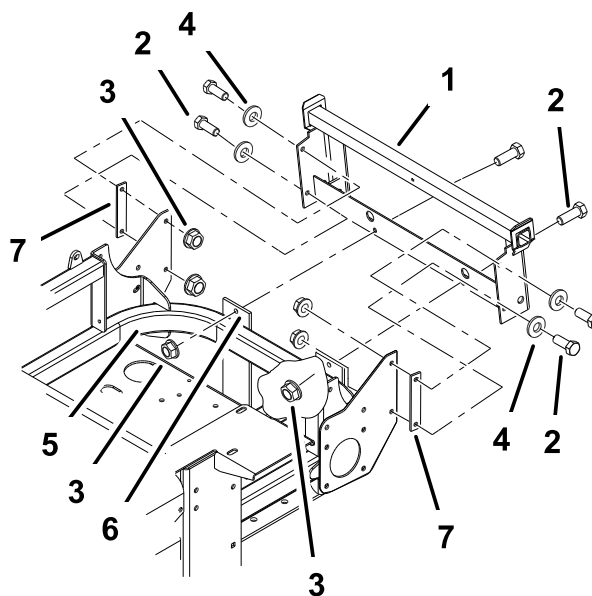

Figure 3
6. When installing the bagger mounting bracket to the side brackets use the spacer provided in this kit (Figure 3).